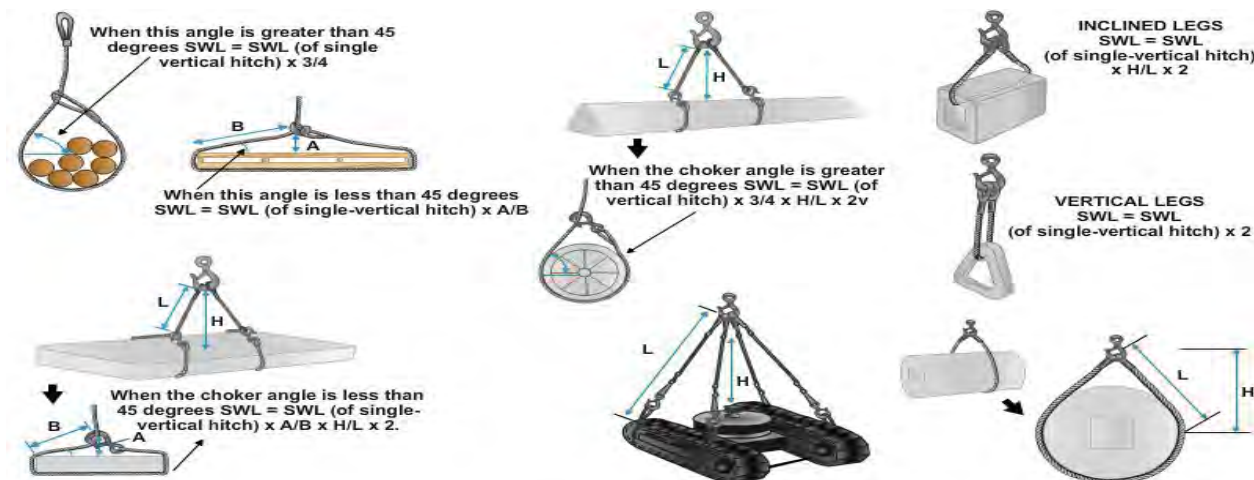

Figure 22-43 – Determination of various sling capacities.
The formula used to compute the SWL for a bridle hitch with two, three, or four legs (Figure 22-43) is: SWL (of single-vertical hitch) x Height (H) divided by Length (L) x 2. When the sling legs are not equal in length, used the smallest H/L measurement. This formula is intended for a two-leg bridle hitch, but should be used for a three or four leg hitch as well.